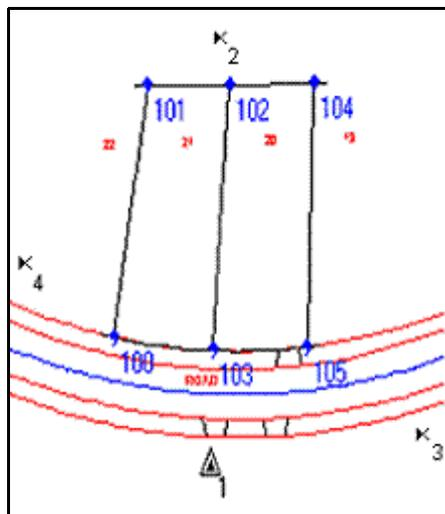

Figure 1.8 Prism or target locations
- Identify three evenly spaced locations around point 1 so that sound geometry is available for a resection performed later at point 1. For example, see Figure 1.8.